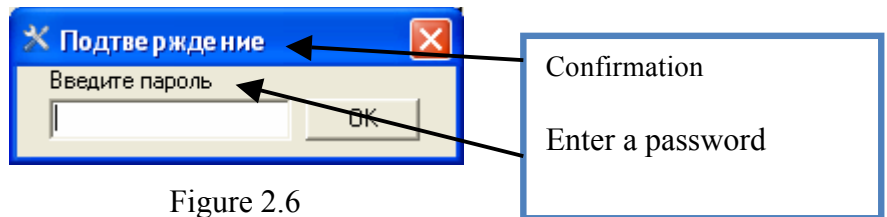

Figure 2.6
Button "**Delete Track**" (6). Used in the event if the structure of the package store was changed in the internal memory (specified in the manual's part of firmware description) or just to remove the accumulated packets. After clicking this button, it is appeared a window "**Confirm**"(Figure 2.6), which requires a password to complete the operation ("1234").